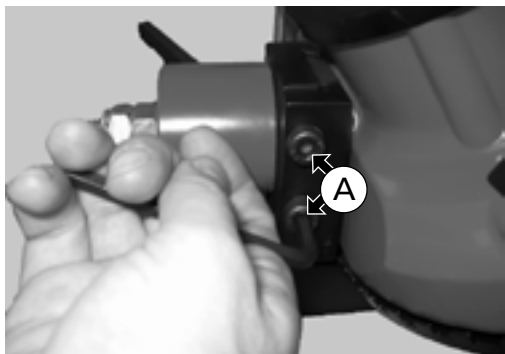
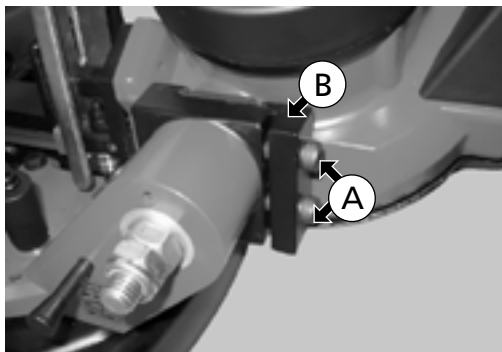

Fig. 33
Fig. 34
Loosen the two screws (A) up to three or four complete turns (Fig. 33) in order to free up the end stop of the band saw (Fig. 34).
Elements on Fig. 33 - 34